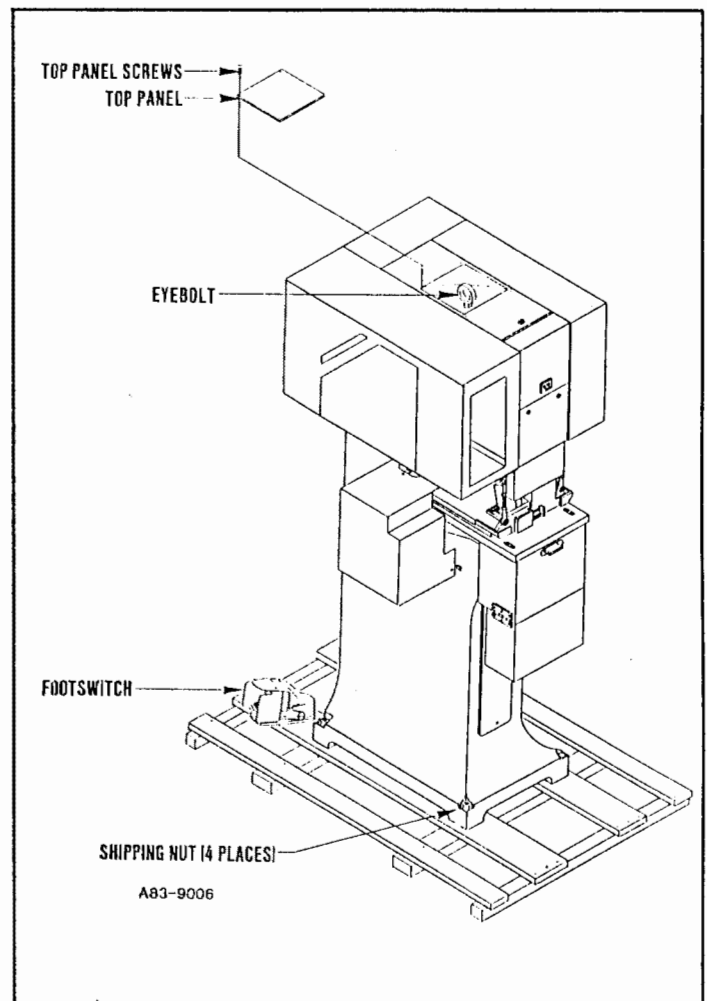

Figure 2.2 A
1. Remove press shipping nuts with 7/8" wrench. See Figure 2.2 A.
2. Pull nail out of base of foot switch with pliers. See Figure 2.2 A.
3. Unscrew the top panel screws with screwdriver and remove top panel. See Figure 2.2 A.
4. Hook chain to eyebolt on top of press. See Figure 2.2 A.